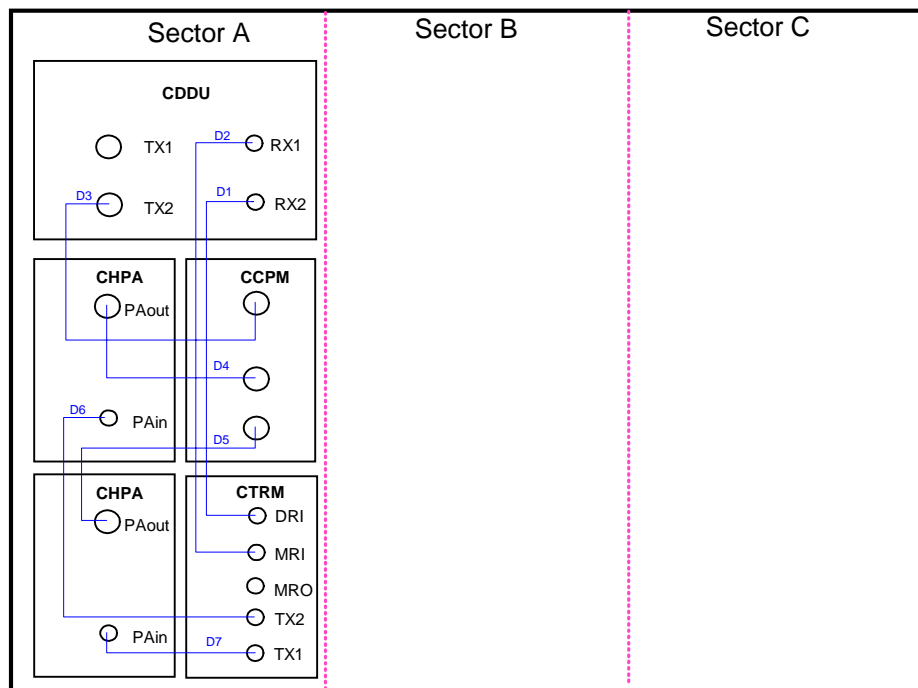

Figure 4-5 O(1) power synthesis
Figure 4-5 illustrates the connections of RF cables for the power synthesis in the case of O(1) configuration. The connections are indicated by blue lines.